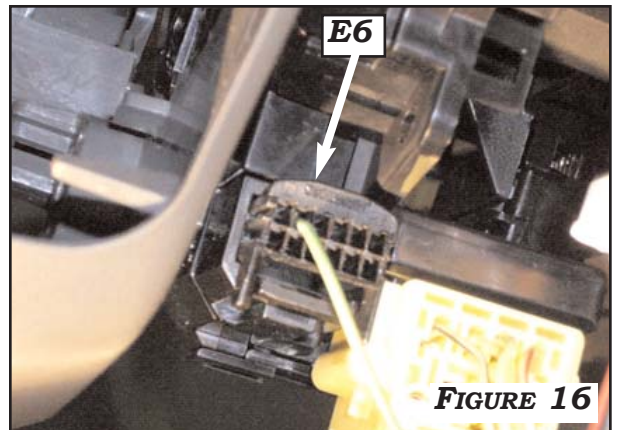
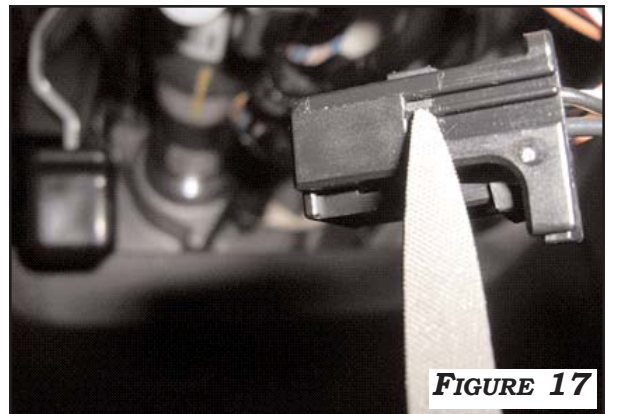

FIGURE 16
FIGURE 17
2. LOCATE CONNECTOR **E6** CONNECTOR BEHIND STEERING WHEEL AT RIGHT SIDE OF SUB ASSEMBLY. **FIGURE 16.** REMOVE CONNECTOR. **BE SURE TO PUSH OUT TERMINAL RETAINER AT THE CENTER OF CONNECTOR. FIGURE 17.** IF PRESENT, REMOVE THE **YELLOW WIRE** IN **PIN 1** OF CONNECTOR **E6.** **SEE FIGURE 18.** INSERT THE **CLOCK-SPRING** TERMINAL FROM THE COROLLA CRUISE ECM HARNESS (**BLACK WIRE**) TO **PIN 1** OF CONNECTOR **E6.** CAREFULLY LOCK TERMINAL INTO PLACE. PULL THE TERMINAL BACK GENTLY TO CHECK WHETHER IT IS LOCKED CORRECTLY.